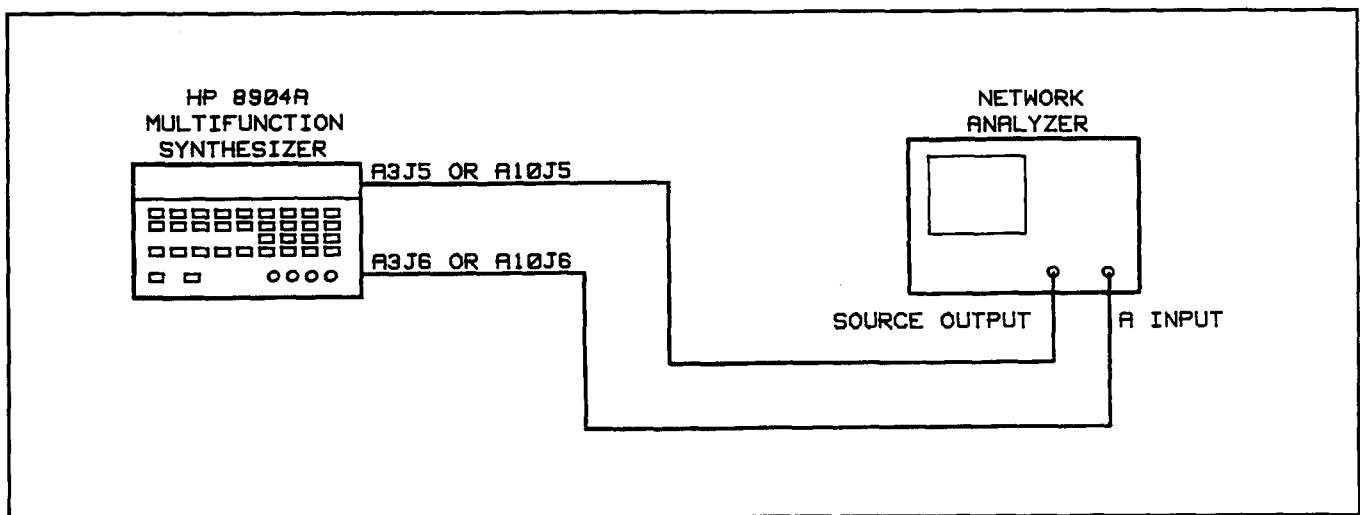

Figure 5-1. Sharp Cutoff Filter Adjustment Test Setup
5. Connect the equipment as shown in Figure 5-1. The network analyzer connects to two SMC connectors on A3 or A10. The network analyzer should be set up to drive the Sharp Cutoff Low-Pass Filter (at A3J5 or A10J5) with its source and to measure the output from the filter (at A3J6 or A10J6).